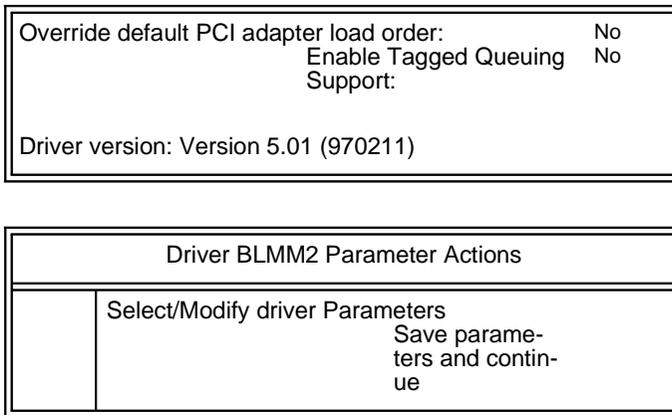

Figure 4-4. . Driver Configuration Screen
12. A configuration screen is displayed, as shown in Figure 4-4..